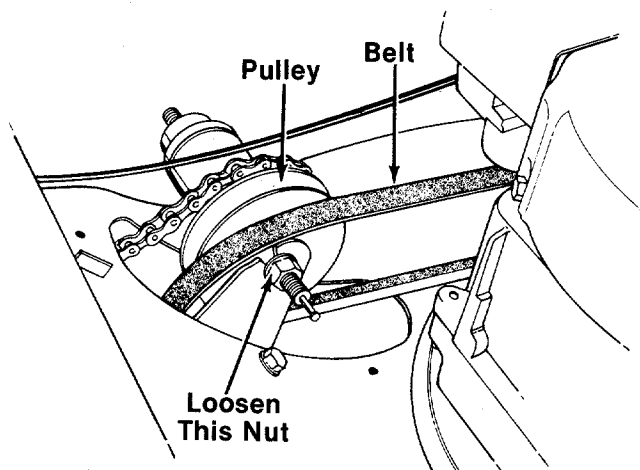

FIGURE 27.
7. Slide the belt off the pulley as shown in figure 27.
8. Loosen the nut on the inside of the three speed hub. See figure 27.